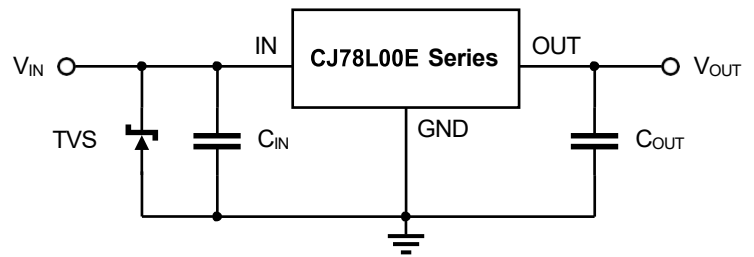

Figure 8-2. TVS is used at IN
1. Place a TVS between the IN and GND of the voltage regulator to absorb the peak voltage that may be generated due to ESD or other reasons. As shown in Figure 8-2;
For the CJ78L00E series, it is recommended that the peak voltage should not exceed 36V. When the input voltage of the operating circuit may not meet the application conditions described above, it is recommended to adopt the circuit layout shown in Figure 8-2 to 8-4 in the circuit design. During the power supply design process, the designer must inspect the application circuit to ensure that under no circumstances will the IC be damaged due to the reasons mentioned above.
It is recommended that the C_{OUT} should not exceed $20\mu\text{F}$. When the C_{OUT} exceeds $20\mu\text{F}$, it is recommended to use the circuit layout shown in Figure 8-2. See *Large Output Capacitance* for more details.